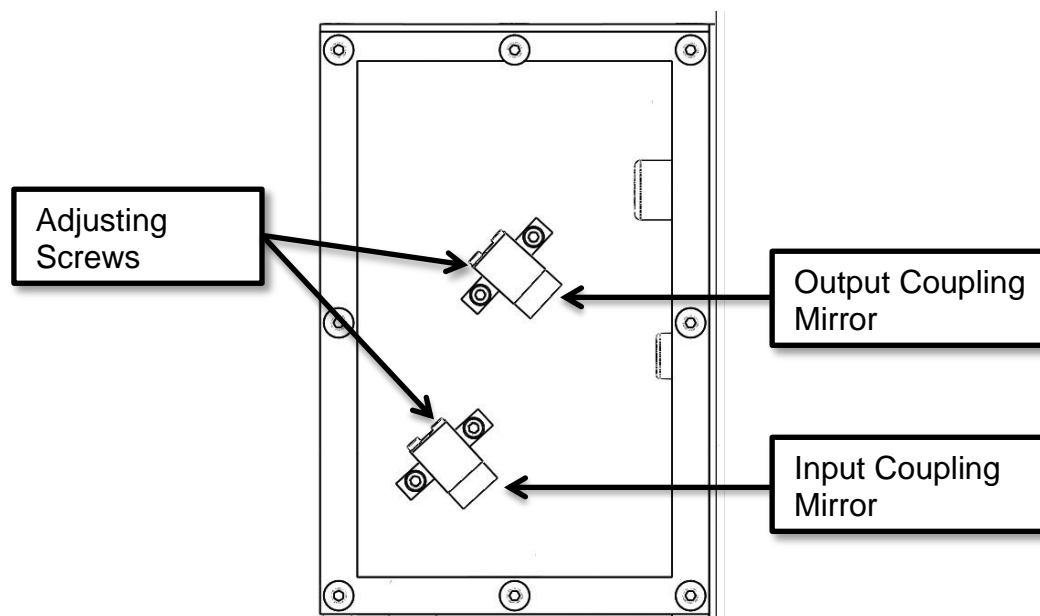

Figure 3-4: Coupling mirrors
4. There are two mirrors inside the laser beam alignment chamber; the input-coupling mirror is the one closer to the cell (see Figure 3-4 **Error! Reference source not found.**). Carefully adjust the two screws on the input-coupling mirror to maximise the voltmeter reading. First adjust one screw until maximum voltage, and then adjust the other screw. Repeat until the voltage has reached a maximum.
5. The output-coupling mirror is the mirror further away from the cell (see Figure 3-4). Carefully adjust the two screws on the output-coupling mirror to maximise the voltmeter reading. First adjust one screw until maximum voltage, and then adjust the other screw. Repeat until the voltage has reached a maximum.